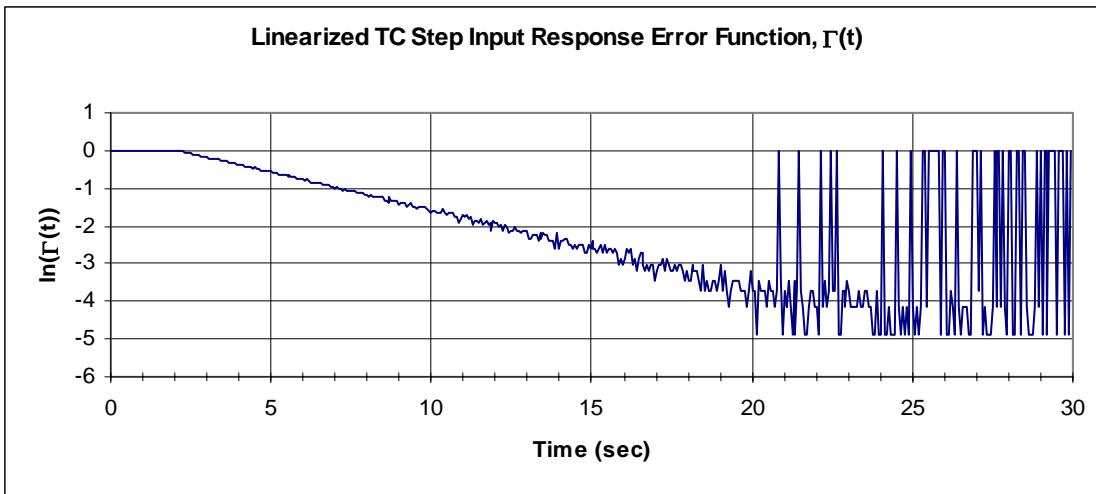

Figure 13. Linearized step input response error function.
48) If your plot of the linearized error function of the dynamic calibration data taken during lab 2 looked like Figure 13 you would obtain a poor estimate of the time constant.